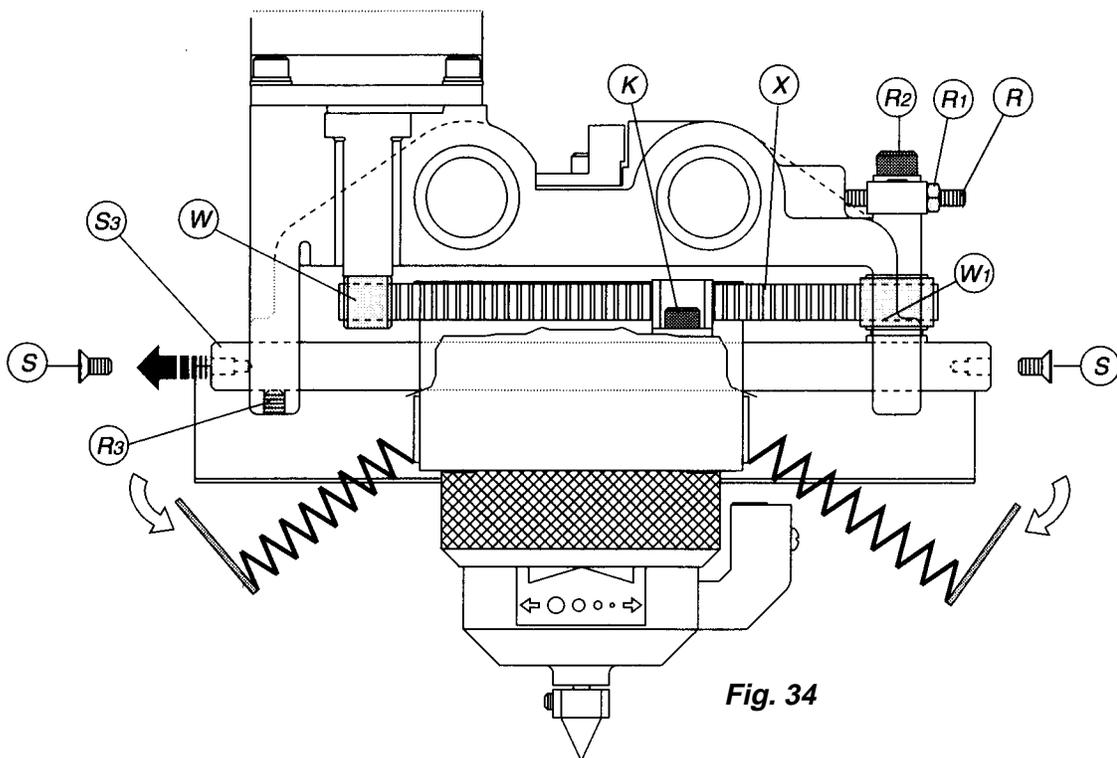

Fig. 34
5. Remove the four screws (S) securing the bellows (Fig 34).
8. Loosen screw (K) until the belt is free (Fig 34).
9. Place the new belt in position and re-assemble the head, making sure that the belt (X) is placed on the outside of the pulleys (W) and (W1).
11. Adjust belt tension by means of the belt pulley (R).